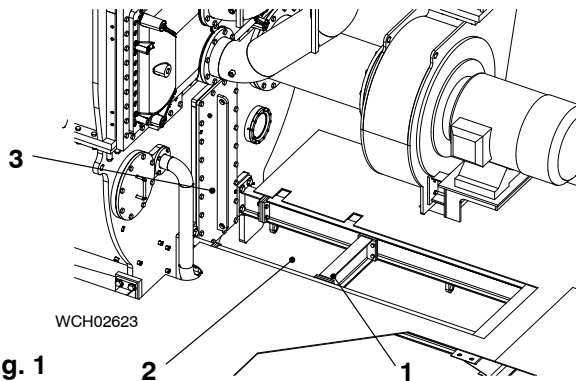
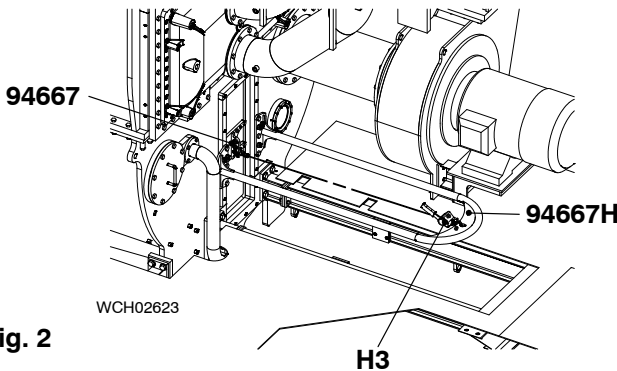

Fig. 1
Fig. 2
- 2) Remove the front cover (3, Fig. 1) from the housing of the water separator.
- 3) Remove the beam (1) and the bottom plate (2).
- 4) Install the tool (94667, Fig.2) to the front of the water separator.